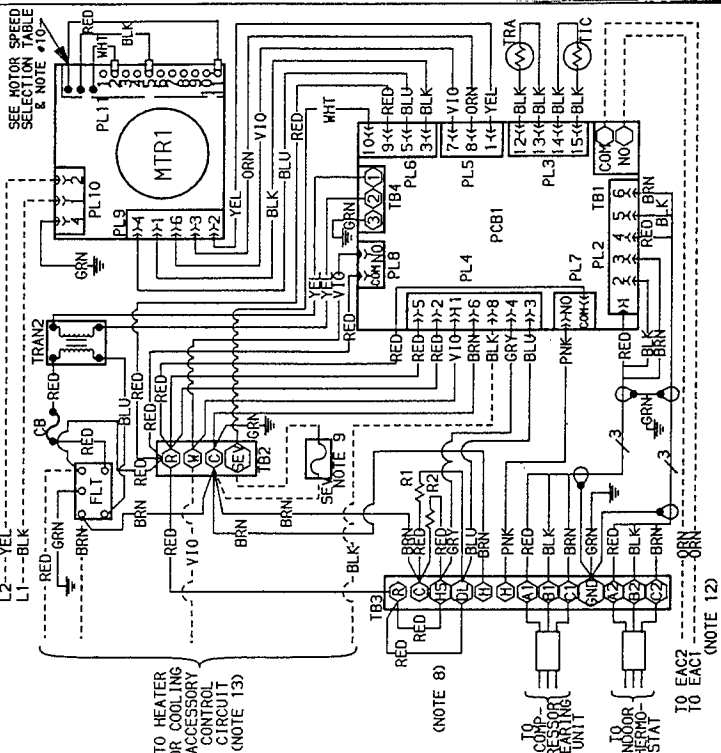

Fig. 1— 40QE024 Schematic
11. REMOVE EXISTING MOTOR LEADS, RED, BLACK AND YELLOW FROM HEATER OR COOLING CONTROL ACCESSORY AND DISCARD. CONNECT ICM MOTOR POWER LEADS (BLK & YEL) AS SHOWN IN FIGS. 1 & 2. FOR COOLING CONTROL ACCESSORY. REMOVE ICM MOTOR LEAD TERMINALS, STRIP LEADS BACK 1/2 IN. AND CONNECT AS SHOWN IN ACCESSORY DIAGRAM IN FIGS. 1 & 2.